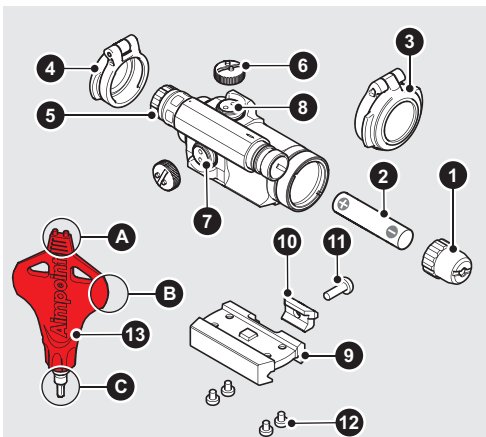

Fig. 1 Overview (configuration)
- a Remove the front lens cover (3) by pushing on the hinge in the direction away from the sight.
- b Untighten and remove the battery cap (1). If necessary, use the tool (13 B).
- c Insert battery (2) with the negative end (-) toward the battery cap (1) and the positive end (+) toward the sight as shown in Fig. 1.
If the sight is equipped with the mount shown in Fig. 1, follow the described procedure. For installation with other mounts, see accompanying instruction.